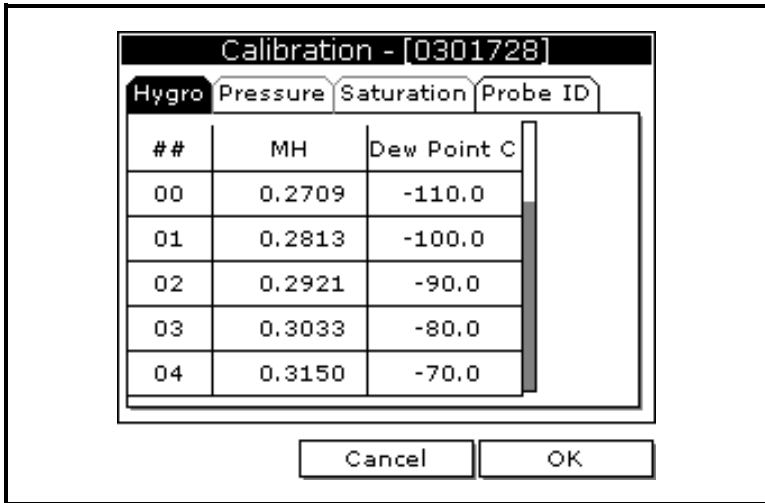

Figure 1-5: The Hygro Window in Calibration
4. If necessary, use the arrow key to scroll to Hygro and press [ENTER]. The screen appears similar to Figure 1-5 on the next page.